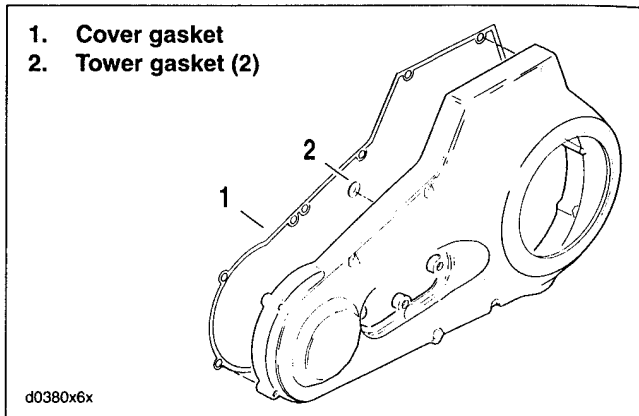

Figure 6-2. Inspection Cover Gaskets
1. See Figure 6-2. Replace the cover gasket (1) and both gaskets (2) on the two inner primary case towers.